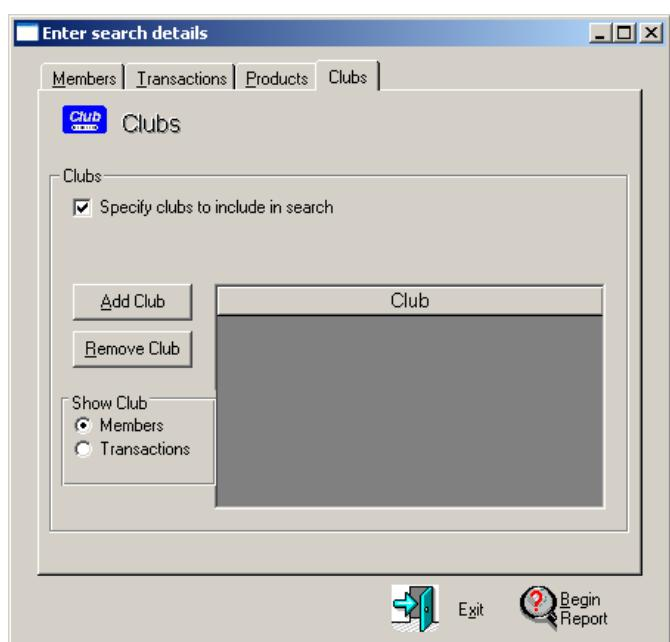

Figure 413
- The fourth tab (Figure 413) in Club Analysis enables you to search for transactions filtered by club.